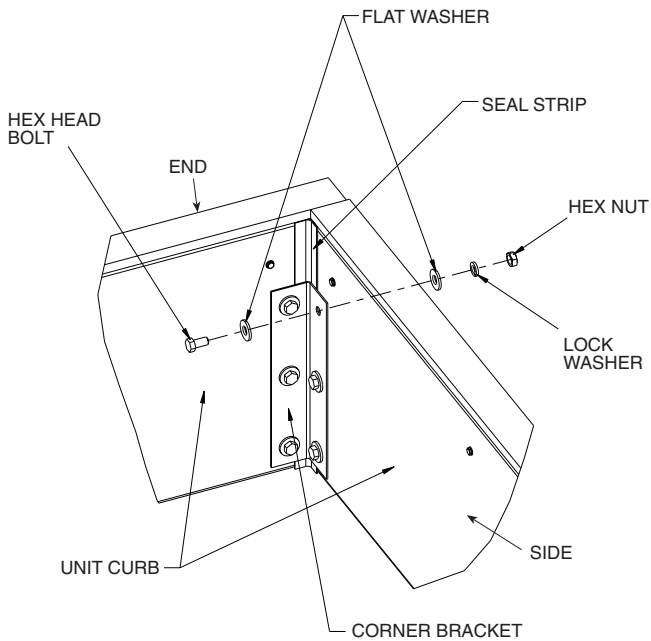

Fig. 9 — Corner Bracket
2. Arrange sides and ends together at right angles and bolt together using the corner bracket as shown in Fig. 9.